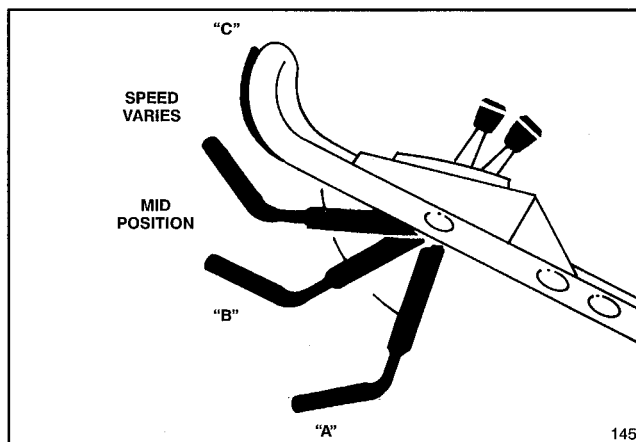

Figure 7
Note: Do not shift speeds while control bar is squeezed against handle in the "C" (drive) position (Fig. 7); the transmission could burn out. Move control bar to the mid position (Fig. 7) when changing ground speed.
(Fig. 7)—Move control bar down to "A" and raise to "B" to engage blade. Squeeze control bar against handle "C" to drive. To disengage traction drive but keep blade engaged, gradually release control bar to mid position. To self-propel with blade disengaged, simply squeeze control bar against handle, eliminating downward movement necessary for blade engagement.
7. **STOPPING** (Fig. 7)—Release control bar to stop blade and traction drive. Move ground speed control to **N** (neutral) position. To stop engine, move throttle to OFF. Remove key from switch on electric start model or pull wire off spark plug if mower will be unattended or not used.